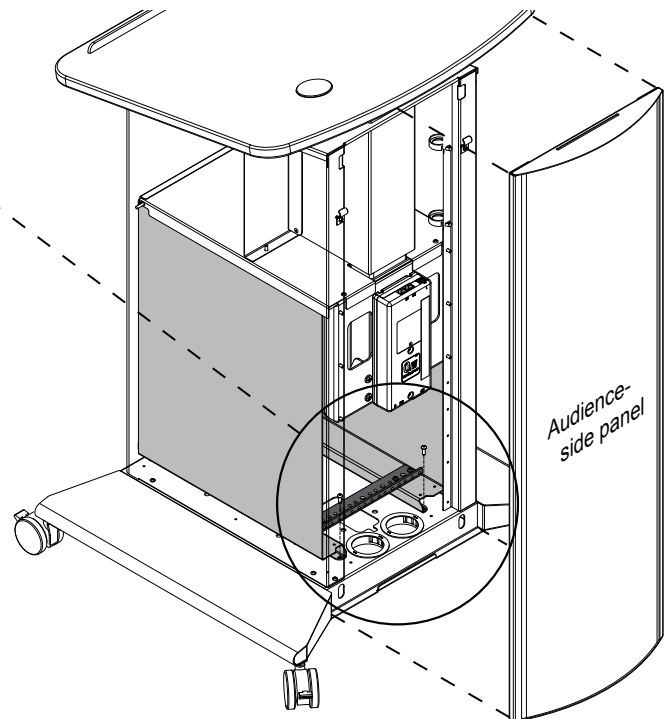

Figure 2.2
2. If the cube needs to be secured to the lectern, remove the audience-side panel. (Lift up, then out). **Figure 2.2.**